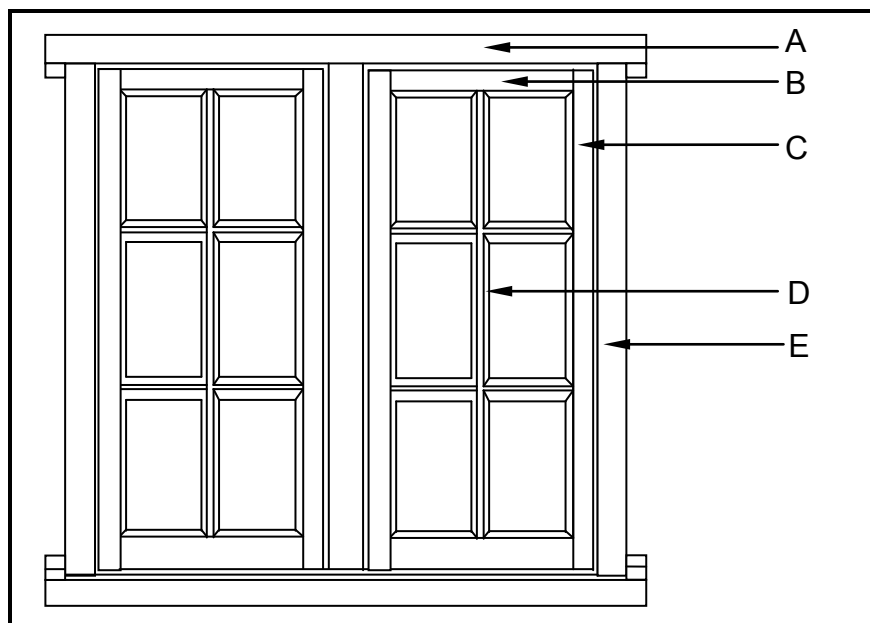

FIGURE 1.6
- 1.6 FIGURE 1.6 below shows the front elevation of a window. Study the drawing and answer the questions that follow.